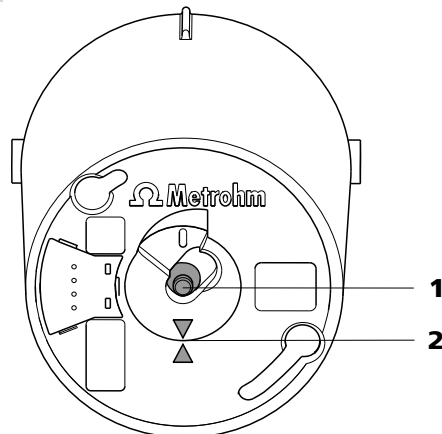

Figure 14 807 Dosing Unit from above
- If necessary, rotate the centering tube(14-1) by hand until they are in the correct position (*see Figure 14, page 22*).